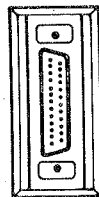

Fig. 3—Identification
- 1 — Set 43 Teleprinter (Fig. 3)